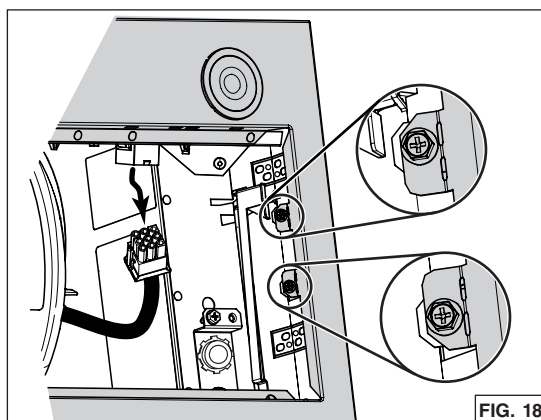

FIG. 18
5. Unplug the blower cable from its connector on faceplate. Disassemble the faceplate from the unit by removing its 4 retaining screws (two per side, circled in FIG. 18). Set aside the faceplate along with its screws.